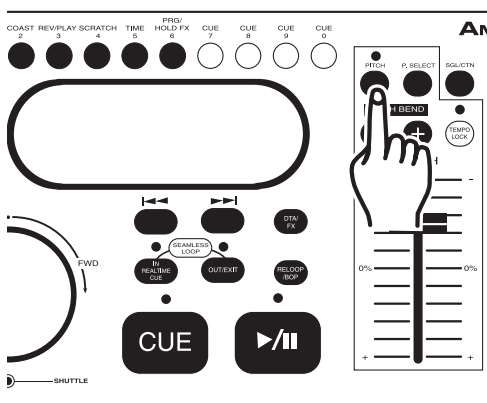

Figure 13
Adjusting the Pitch Slider's Range (21): You may change the PITCH SLIDER'S (21) operating range. To change the operating range be sure the pitch function is turned on, see figure 13. The pitch percentage can be changed between $\pm 8\%$, $\pm 12\%$, and $\pm 16\%$. $\pm 8\%$ will allow the least amount of pitch manipulation and $\pm 16\%$ will allow the most amount of pitch manipulation. To adjust to the different values tap the P.SELECT BUTTON (8). The LED beside the PITCH BUTTON (7) will indicate which pitch percentage mode the unit is operating in. Glowing green for $\pm 8\%$, glowing orange for $\pm 12\%$, or glowing red for $\pm 16\%$. Note, the pitch function must be activated to receive a LED reading.